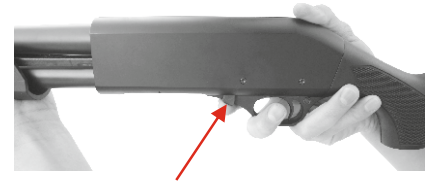

Fig.7
5. Press release button to unlock the bolt (Fig.7).